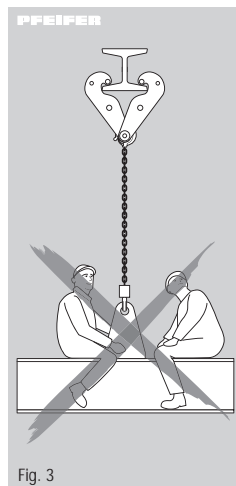

Fig. 3
- Using the beam clamp to transport people is forbidden (Fig. 3).